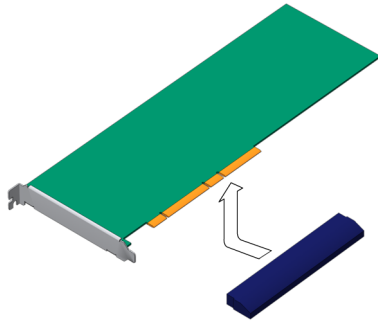

FIGURE 4-5 Lifting the PCI-E Card From the PCI Tray
3. Slide the PCI-E card to the left and lift it out of the PCI tray (FIGURE 4-5).